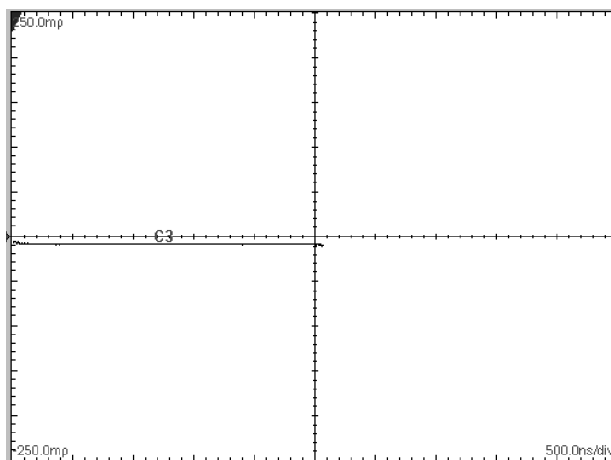

Figure 16: TDR step of undamaged sampling module
- If checking an 80E04 sampling module and your instrument has TDR capability, attach a 50 Ω termination to the channel input and perform a TDR measurement of the attached fitting. Adjust the HORIZONTAL SCALE to 500 ns per division. This should display the entire TDR step from edge to edge. Display the step top at 40 mV per division and check for flatness. If the top is bowed, sagged, hooked, or tilted, assume static has damaged the module and service is required. See Figure 16 on page 44.